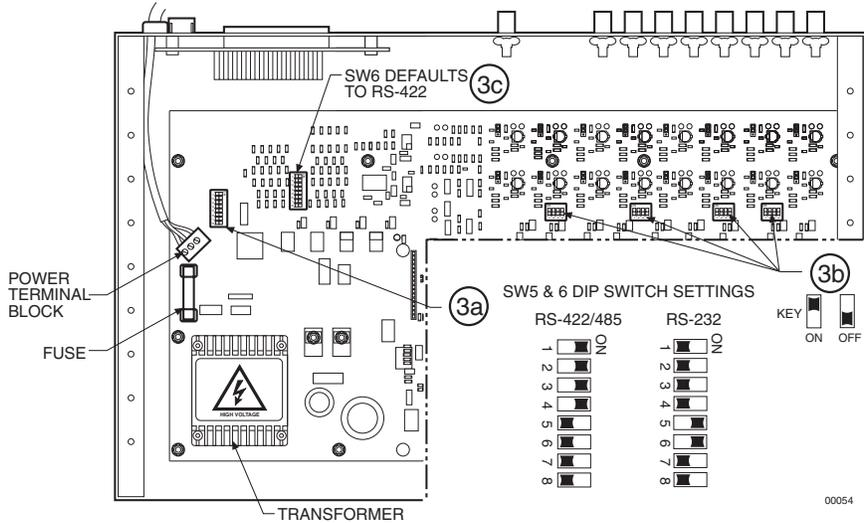

Figure 6. DIP Switch Locations
3. Refer to Figure 6. Set DIP switches.
You will need to use the COM 2 port if your system includes an ASCII control device, such as a personal computer or a keyboard that is connected via dial-up lines or fiber optic network. The port interface at COM 2 can be either RS-232 or RS-422/485. The DIP switches should have been set (refer to Figure 6).